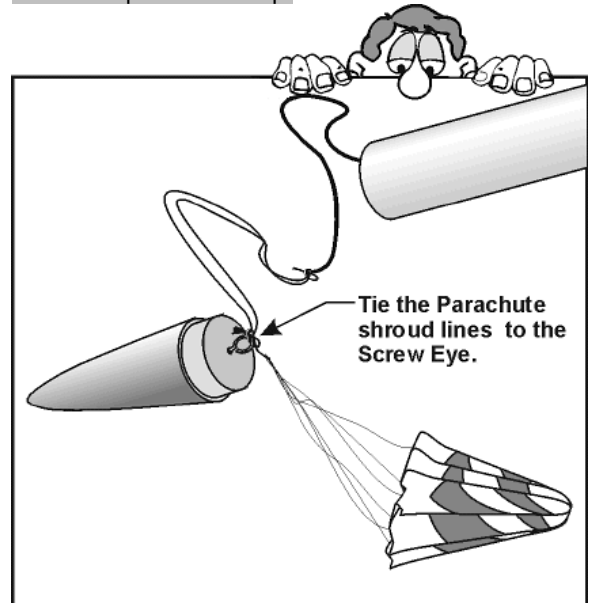

Figure 30
30. Referring to **Figure 30**, tie the parachute shroud lines to the screw eye as shown. The easiest way to do this is to pinch the parachute in the very center of the plastic and sliding your other hand down the parachute to the shroud lines, gathering them together at the end. (**ADULTS** may wish to help with this step.)